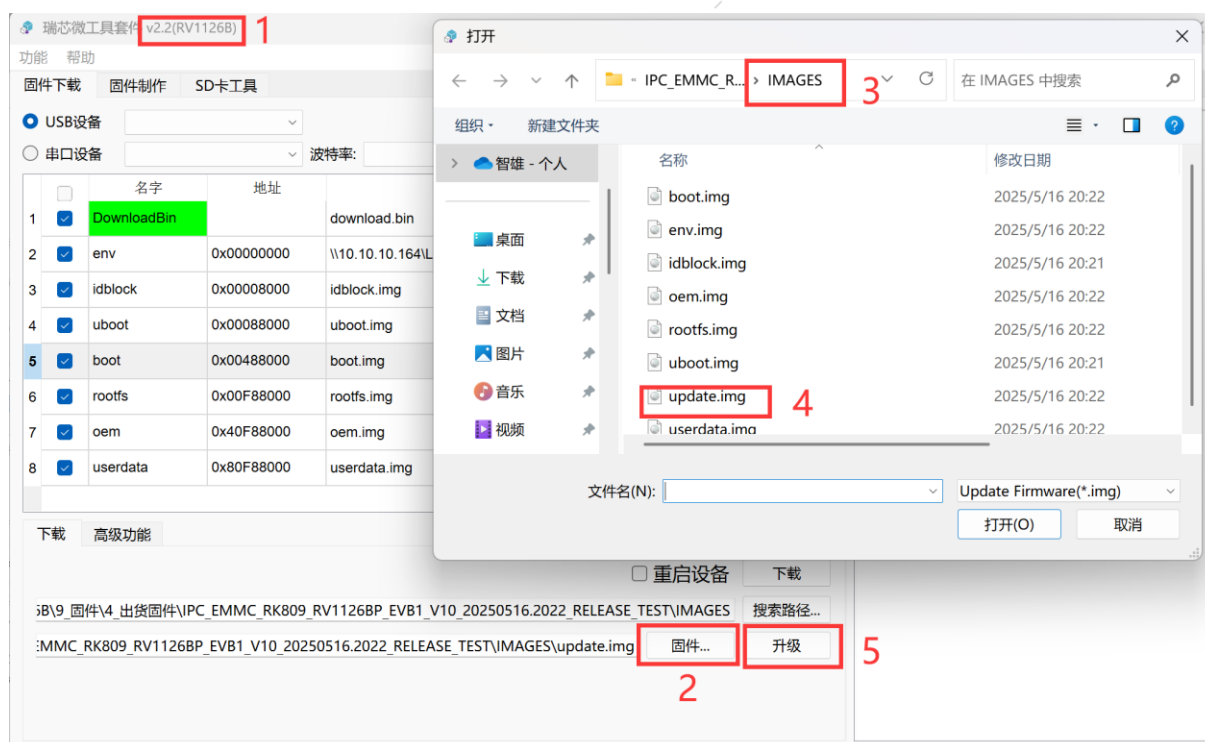

Figure 4-5 Packaged Firmware
- b) Open the tool, select RV1126B, enter the interface as shown in Figure 4-5, select "Firmware..." → select the packaged firmware folder "IMAGES" → select the update file → click the "Upgrade" button.